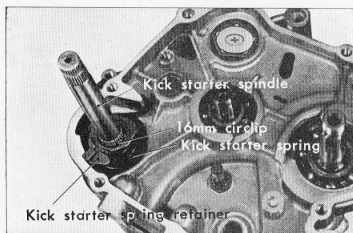

Figure 3-87. Removing kick starter
As the spindle returns to the original position by the action of the kick starter spring, the ratchet disengages from the pinion and returns to the position for the next kick cycle. (Fig. 3-87)
- (1) Remove the clutch unit.
- (2) Remove flywheel and stator assembly.
- (3) Remove the primary driven gear.
- (4) Remove the gear shift spindle.
- (5) Remove the 16mm circlip from the kick starter spindle and disassemble the kick spring retainer and the kick starter spring. (Fig. 3-87)
- (6) Separate the right and left crankcase halves and then lift out the spindle from the left crankcase.